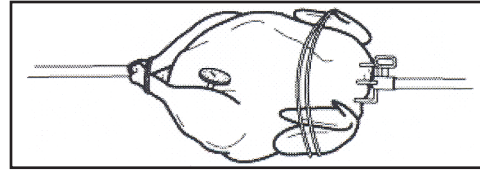

Fig. 15
**For poultry:** Insert the tip of the thermometer in the thickest part of the thigh close to the body. (Fig. 15)